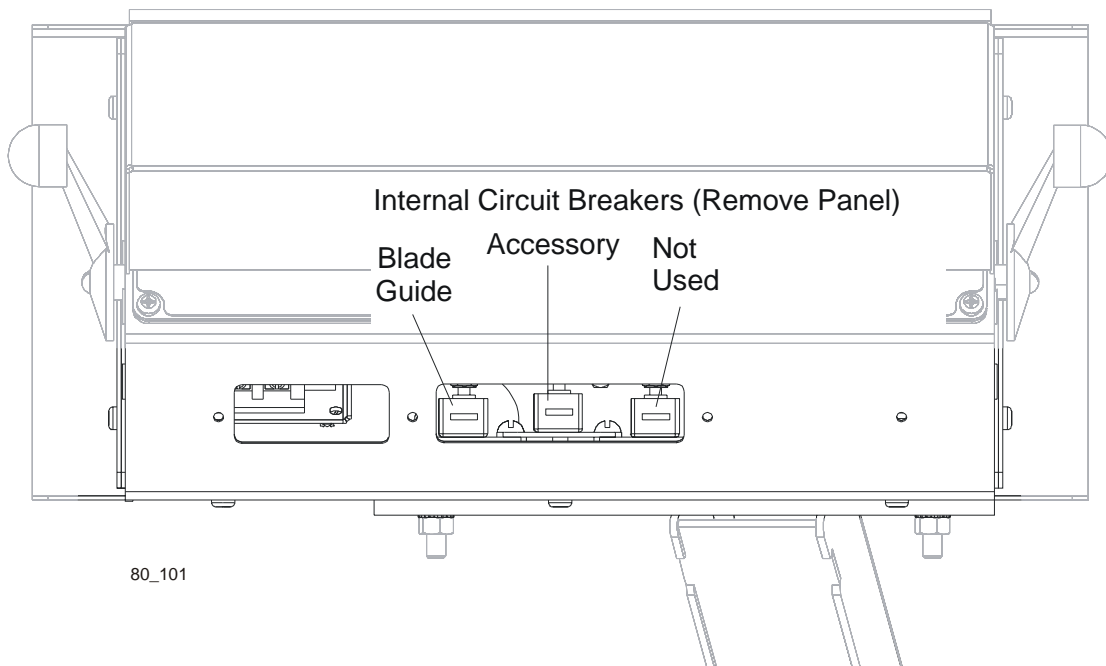

FIG. 4-2
**See Figure 4-2.** The blade guide and accessory are located inside the control box. Remove the circuit breaker panel from the control box to access the internal breakers.